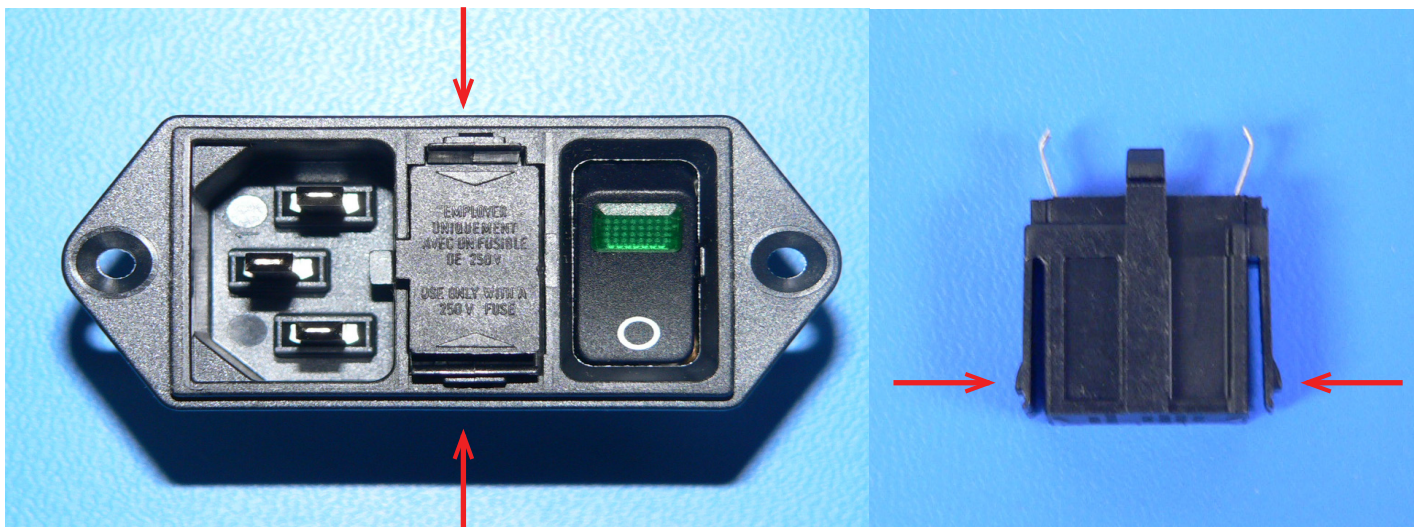

Figure 18: Fuse Box Tabs
- Using the needle nose pliers, carefully extract the fuse box from the power entry module by squeezing down on the fuse box tabs in the slots as shown in Figure 18.